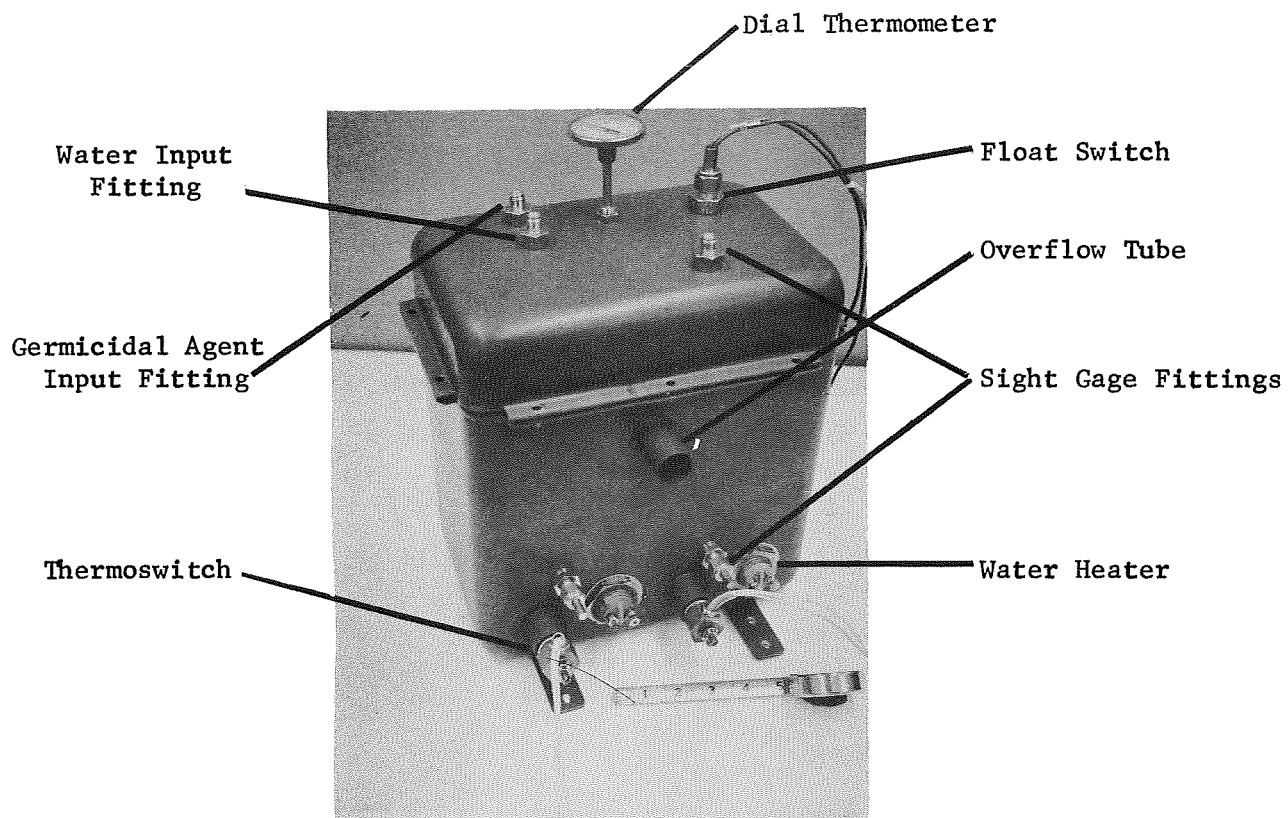

FIGURE 18. WATER TANK
4.10 Thermostats (See Figures 18 and 19)
4.11 Water Heaters (See Figures 18, 19, and 20)
4.13 Float Switch (See Figures 18 and 19)
4.14 Dial Thermometer (See Figures 18 and 19)